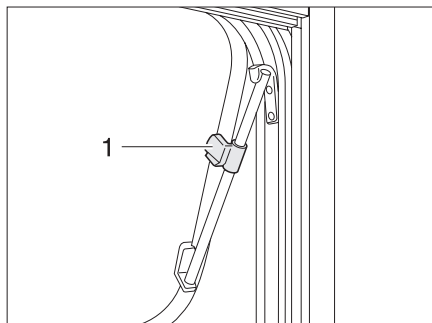

Fig. 30 Hinged window with rotary hinges, open
- ▶ Open the hinged window until the required position has been reached and secure in position using the knurled knob (Fig. 30,1).
- ▶ Turn the knurled knob (Fig. 30,1) until the latch is released.